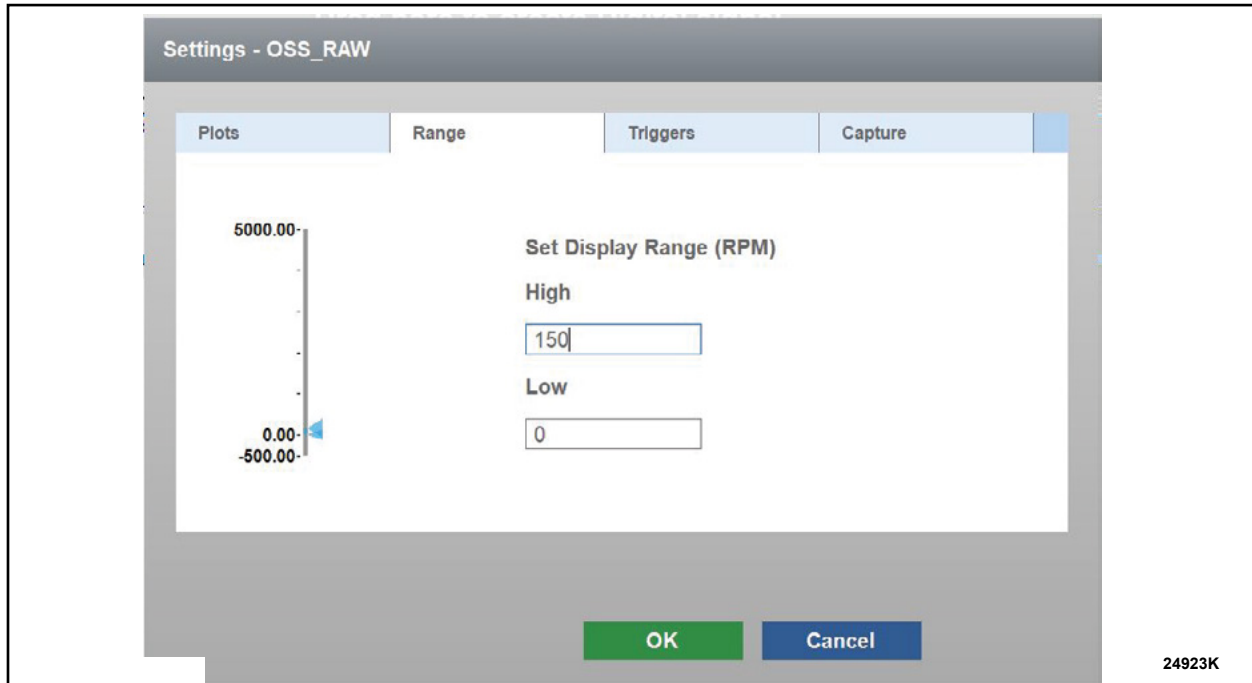

FIGURE 4
11. Rescale the Set Display Range (RPM) to a High of 150 and a Low of 0. See Figure 4.